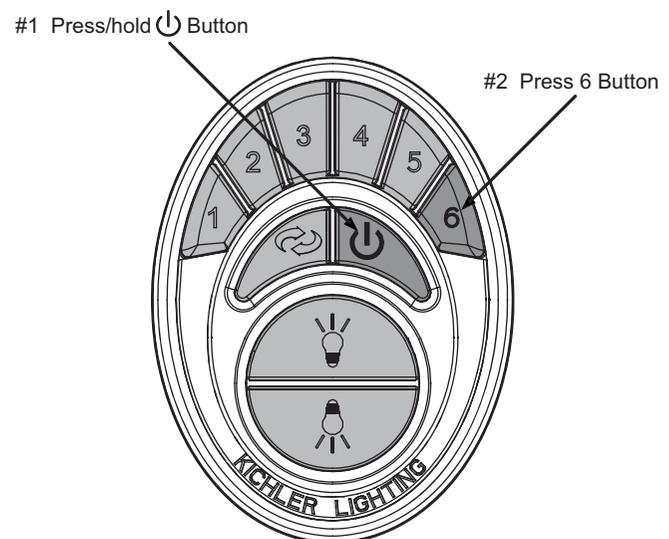

Fig. 22
4. Turn the power on, press and hold the (⏻) button until the ceiling fan light blinks twice (Figure 22)
6. After the ceiling fan light blinks twice, press and release the High Speed (6) Button. Let the ceiling fan run for a minimum of 90 seconds ( 1 ½ minutes). The control system will do another self check, initialize all operational functions and complete the programming process (Figure 22).